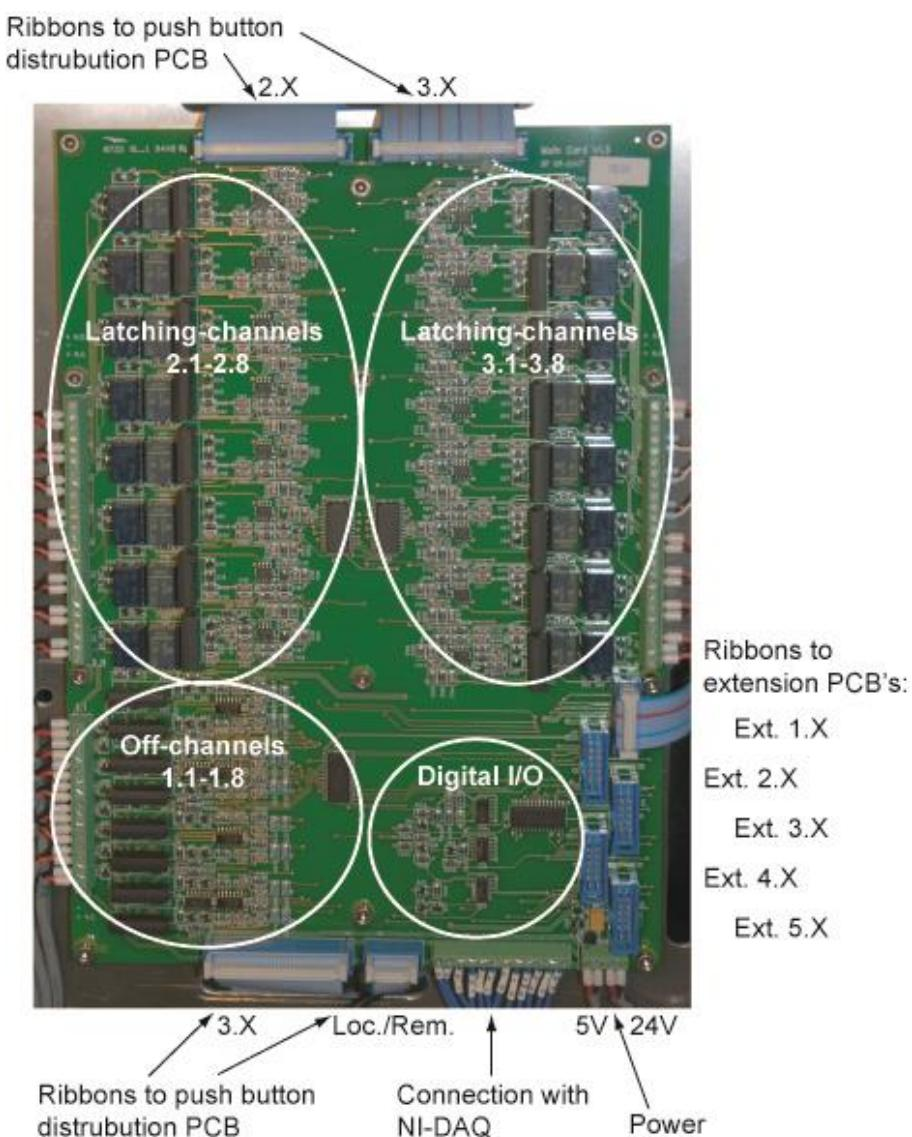

Figure 9. Main circuit board.
2.3. *The Control Unit (CU)*
The Control Unit (CU) is a separate cabinet and contains all the electronics to control and read the status of the GHS (see Figure 8). The CU is preferably placed close to the cryostat. All switching (valves, pumps, compressors etc) is done through a central (expandable) relay board (see Figure 10 and Attachment 7.4). On the main circuit board the relay control channels are arranged in three groups of eight channels each. Except the circuitry for these channels, this board also contains the digital I/O circuitry (see Figure 9). The main board can be expanded with extension circuit boards, each containing eight control channels (see Figure 10). In principle it is possible to control up to 64 channels. A standard BF-LD-series system has one main board plus one extension card, for a total of 32 channels.